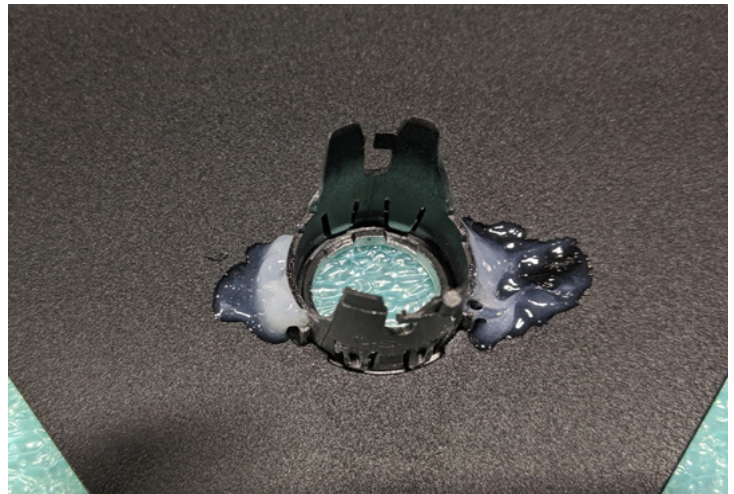

Figure 26
28. Using the provided epoxy, secure all four (4) Oem sensor housings in their appropriate sensor cutout. Figure 26